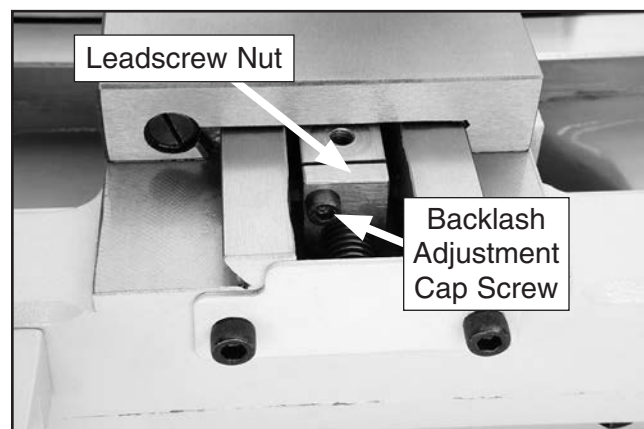

Figure 101. Leadscrew nut.
3. Rotate the cross slide handle clockwise to feed the leadscrew nut out from under the cross slide, as shown in **Figure 101**.
4. Tighten the backlash adjustment cap screw shown in **Figure 101** in small increments.